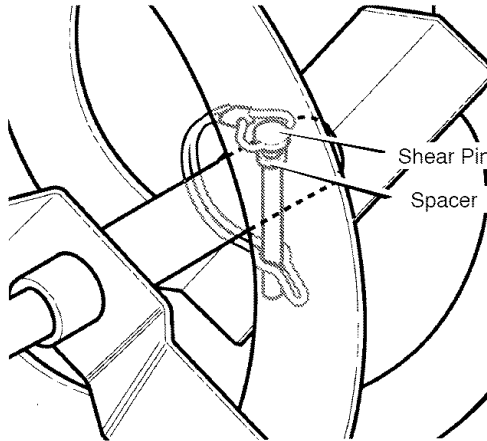

Figure 51
3. Align the hole in the auger with the hole in the auger shaft. Install the new **shear pin** and **spacer**. See Figure 51.